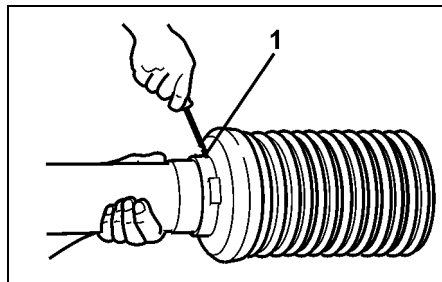

Fig. 12
- Remove fixing bolt (Fig. 12/1).